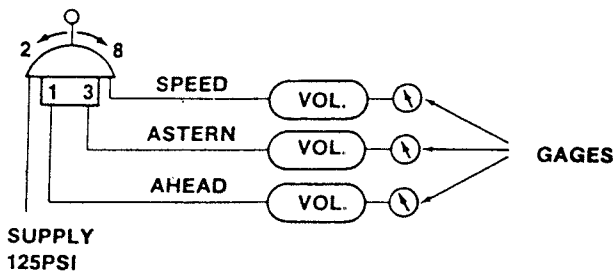

Figure 1. Adjustment Schematic per valve half.
Four adjustments can be made to the THD-2-FM CONTROLAIR Valve. Adjusting screw (40) changes the maximum and minimum pressure settings, set screw (23) varies the pick up points of valve levers (20 and 22), nut (50) alters the force to move the handle, and cam dog pin (19) aligns the cam dog to the cam. Use the adjustment set-up illustrated in Figure 1.